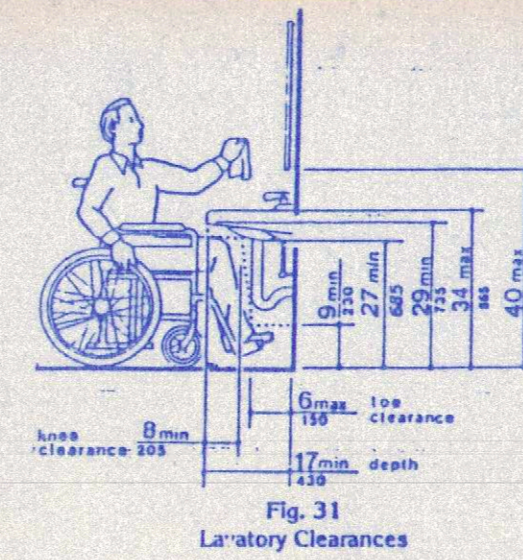

Fig. 31 Lavatory Clearances
4.19.2 Height and Clearances. Lavatories shall be mounted with the rim or counter surface no higher than 34 in (865 mm) above the finished floor. Provide a clearance of at least 29 in (735 mm) above the finish floor to the bottom of the apron. Knee and toe clearance shall comply with Fig. 31.